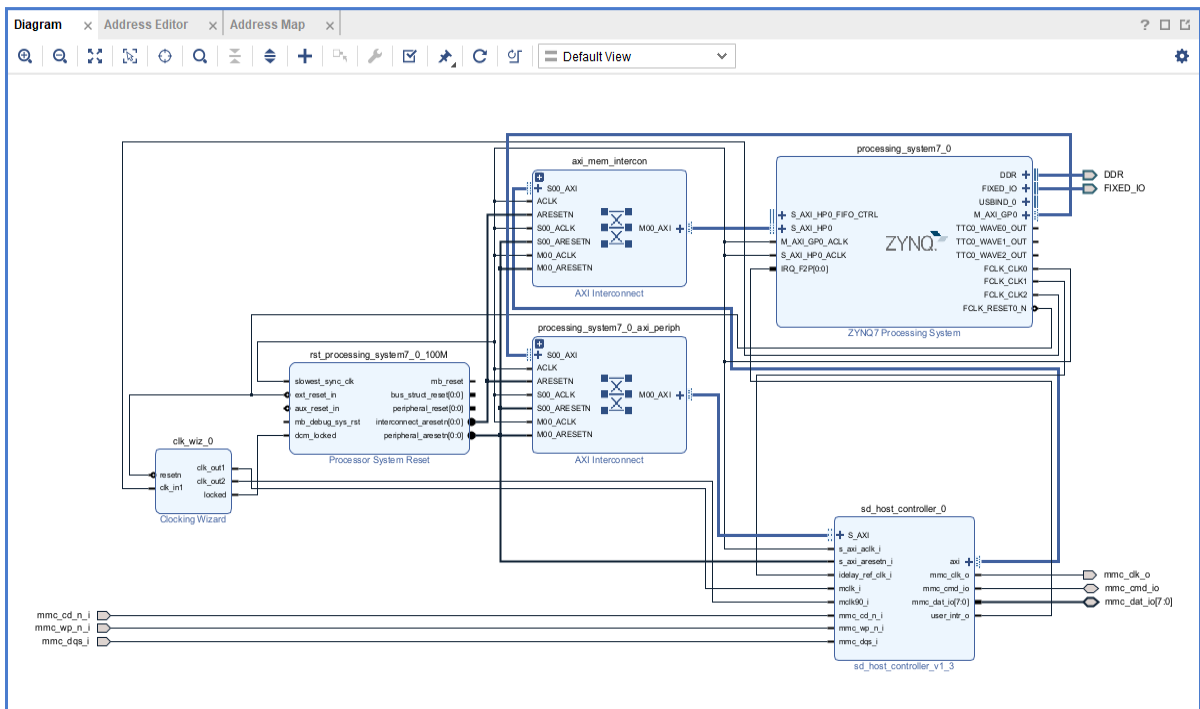

Figure 8: eMMC Host Controller 5.1 IP Configuration step 5
- After adding the other IPs like Zynq-7 processor IP, processor system reset, AXI4-interconnect and Clocking Wizard, add the **sd_host_controller_v1_3** IP to the block design by clicking on the '+' sign as shown in the below Figure 8. The **sd_host_controller_v1_3** IP was configured as the eMMC Host Controller 5.1 IP of the design.